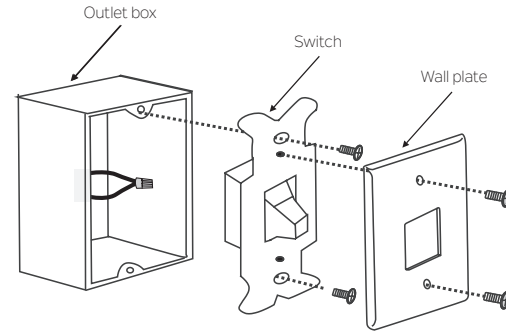

Fig. 25
**Step 1.** Remove the existing wall plate and the old switch from the wall outlet box. Wire nut the BLACK leads (hot) together and push back inside the outlet box. (Fig. 25)